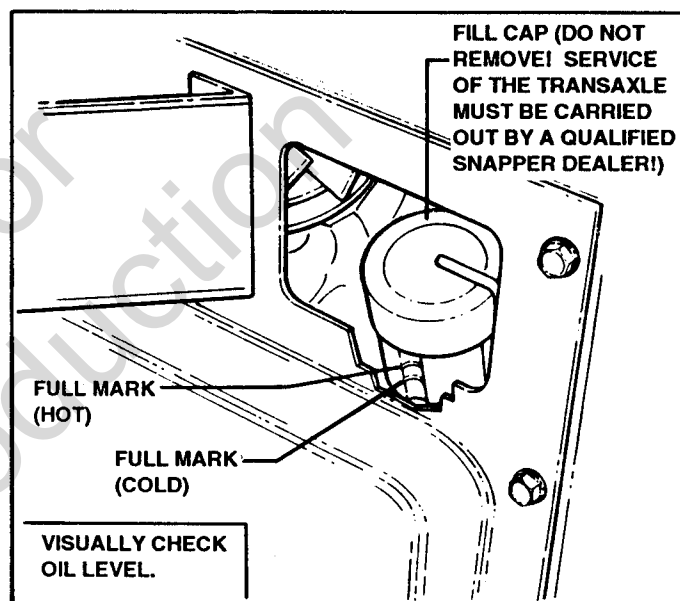

FIGURE 14
- TRANSAXLE: Check oil level in transaxle. See Figure 14.
- **CLEAN** exterior of transaxle and check fluid level in oil reservoir as shown in Figure 14.